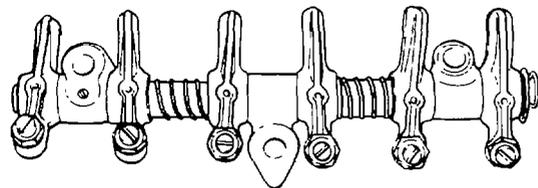

Figure 6 Rocker Shaft Assembly
- d. Mark the rocker arms for the respective inlet and exhaust valves; remove the two countersunk bolts from the inner rocker shaft supports; remove the circlips from the grooves at each end of the shafts; remove the rocker arms, shaft supports and springs from the rocker shafts (see Fig 6).